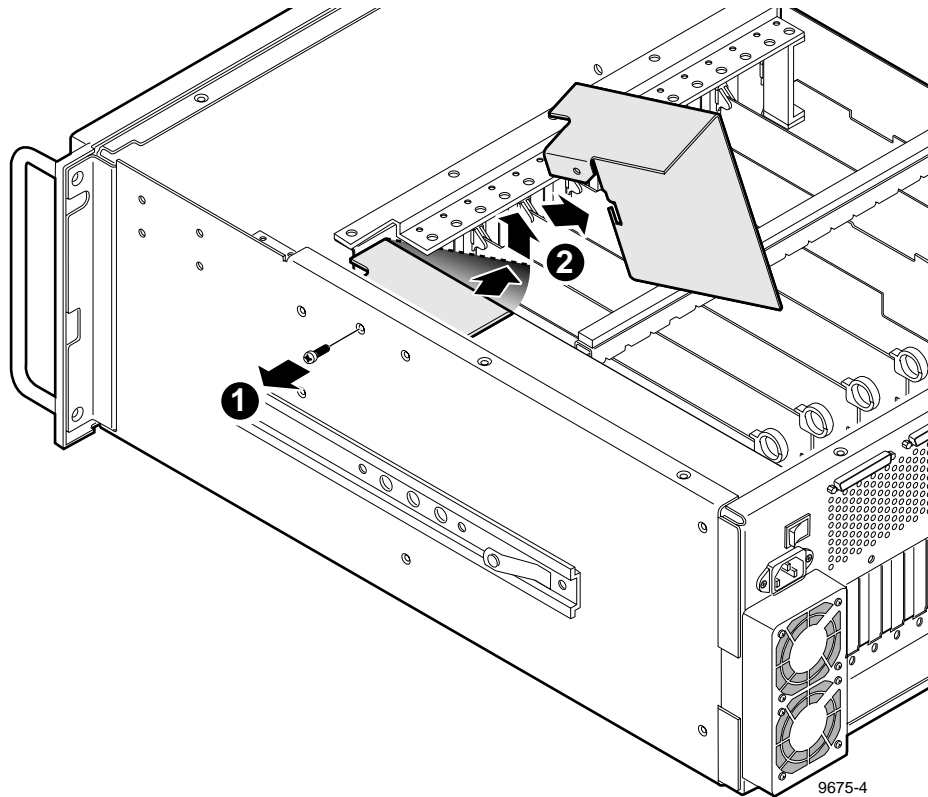

Figure 6-26. Removal of the Power Supply Shield
10. Use the Torx tool with the T10 tip to remove the screw which secures the power supply shield to the right side of the chassis (1 in Figure 6-26) and remove the shield.
6. Being careful to not crimp or damage cabling, use the Torx tool with the T10 tip to install the power supply shield with the screw previously removed (Figure 6-26).